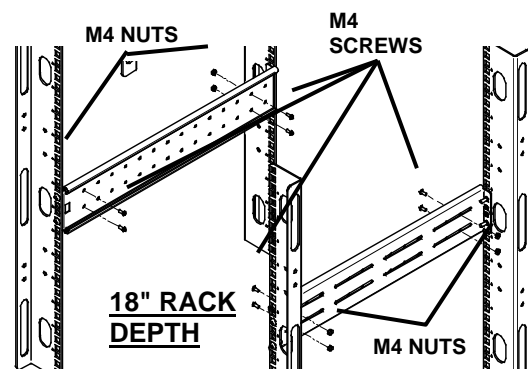

Figure 3A
3. Locate (8) M4 Screws and (8) M4 Nuts from hardware pack in this kit. Each Nut has a locking, nylon insert that begins gripping the Screw when it is halfway tight. Make sure to tighten Nut and Screw completely to assure locking action. Fasten Rear Member and Front Member together using (4) Screws and (4) Nuts per Bracket Assembly as shown in Figures 3A and 3B. For maximum support, locate fasteners for each Bracket Assembly as far apart as possible, depending on rack depth, while still joining both Members (See Figures 3A and 3B). Check alignment of Bracket Assemblies and **TIGHTEN ALL SCREWS FROM STEPS 2 AND 3.**